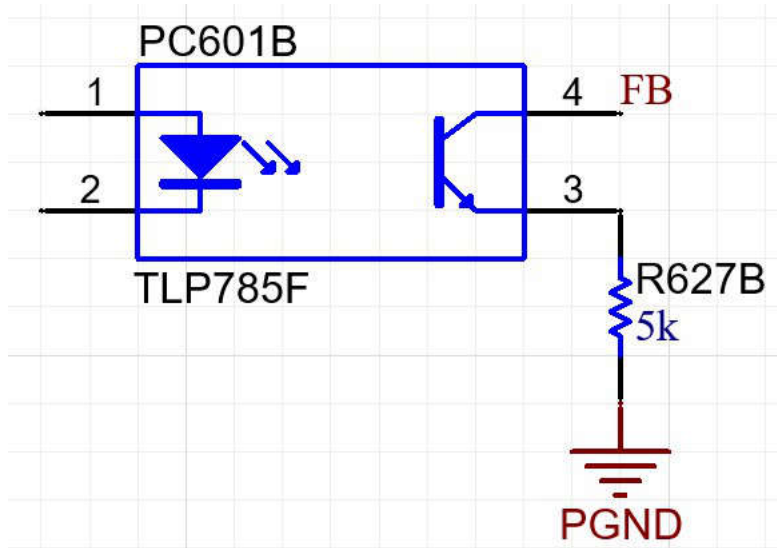

Figure 1-2. FB Replica Measurement Circuit
1. Measure FBReplica voltage by inserting 5k resistor between feedback optocoupler emitter and ground as shown in Figure 1-2. The calculation can be done by Equation 1 .